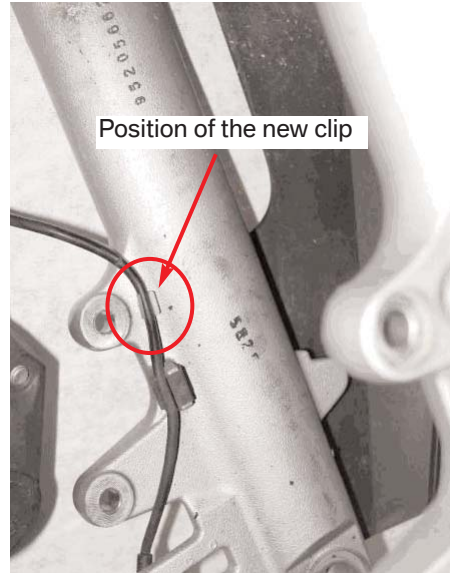

Fig. 7: Inboard side of the R 1200 RT front fork showing the location of the new clip
4. Working from the inboard side, seat the clip in the hole you just drilled and secure the sensor cable as shown in Fig. 7.